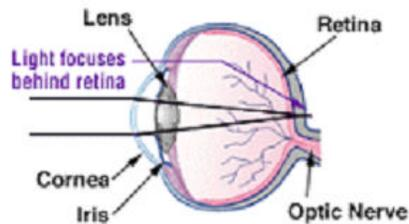

Figure 1: Optics of a human eye.
A. Background (refere to Figure 1.)